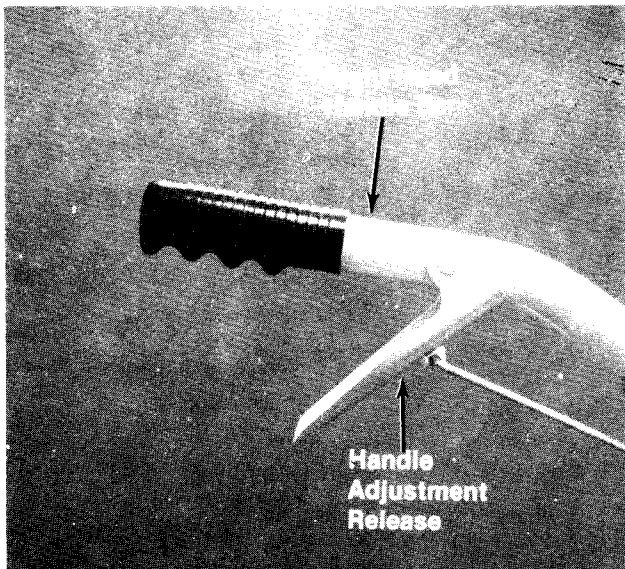

FIGURE 27.
4. **Handle Adjustment:** The handle adjustment release is located on the right hand handle bar. See figure 27.